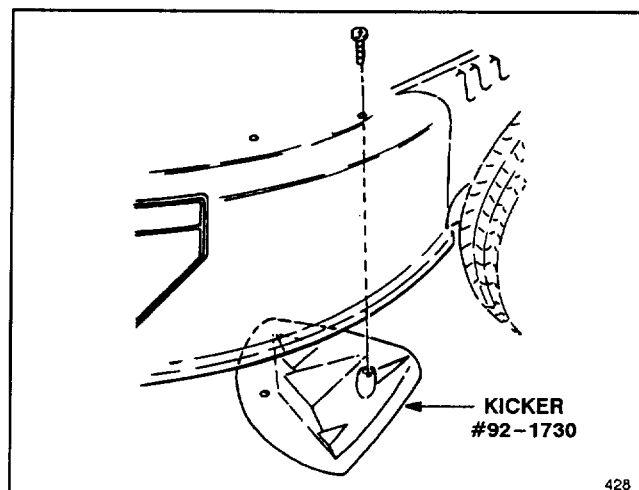

Figure 6
6. Position kicker #92-1730 as shown in Figure 6. Repeat step 5 to secure kicker to deck.